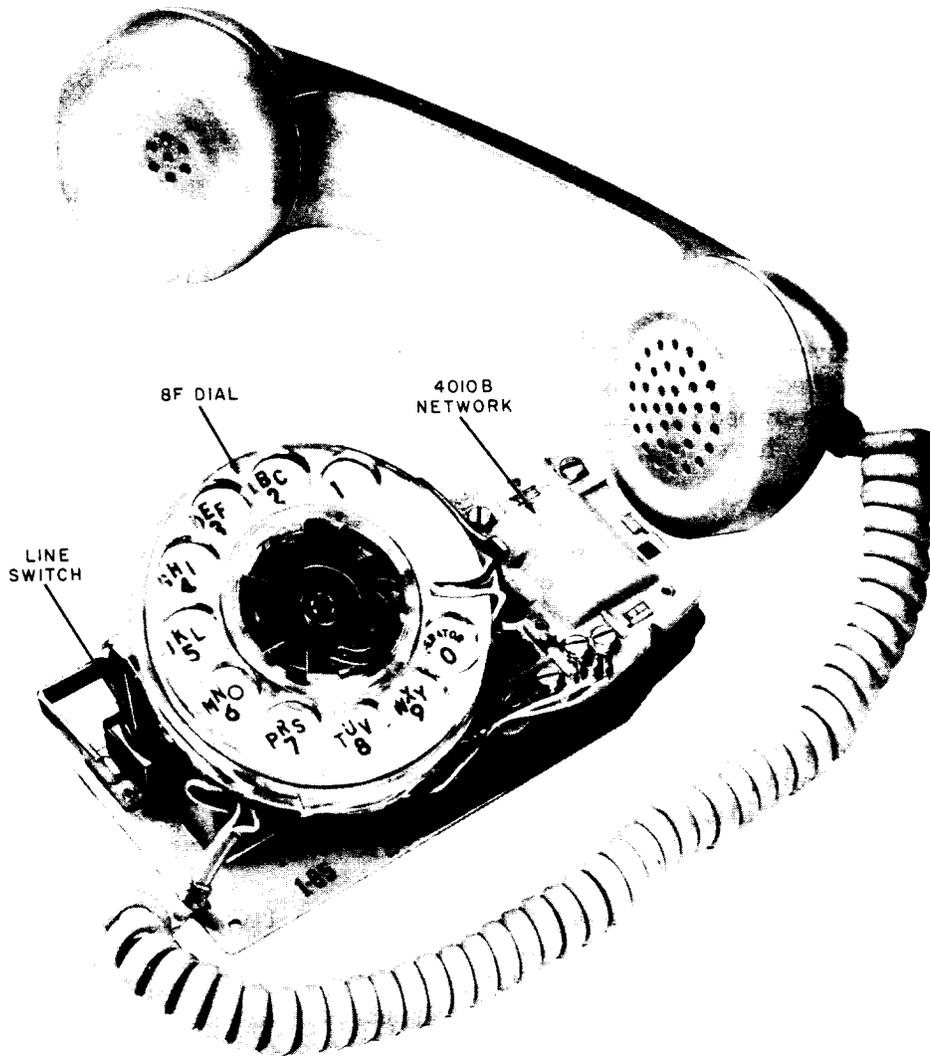

Fig. 1 — 11A Apparatus Unit
2.01 The 11A apparatus unit (Fig. 1) consists of a G3AR handset, H4CJ handset cord, 4010B network, 8F dial, and a line switch mounted to a flat metal baseplate. The handset and handset cord are light gray (-61) color although handsets and cords of other colors are available. See section covering telephone apparatus color.